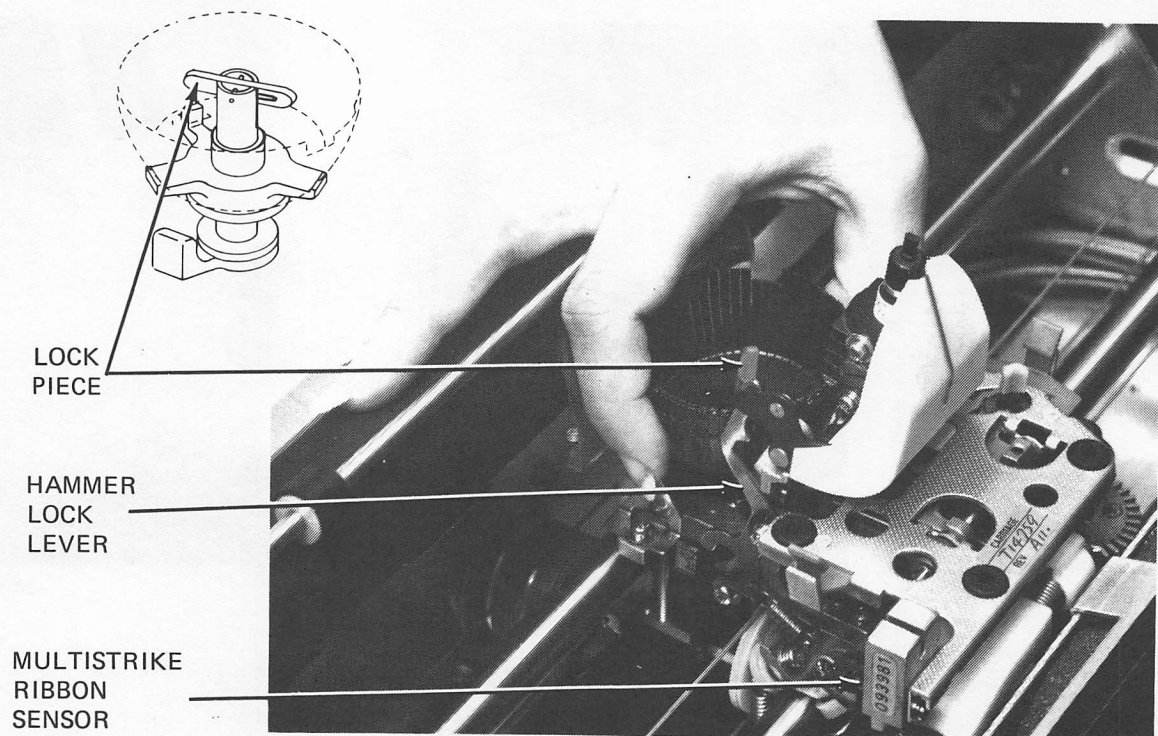

Figure 2-3 Print Thimble Removal
- e. If you are using a multistrike ribbon, insert the ribbon in the ribbon sensor (see Figure 2-3).
- c. Push the hammer lock lever toward the platen and tilt the hammer cover toward the front of the Spinwriter (see Figure 2-3).